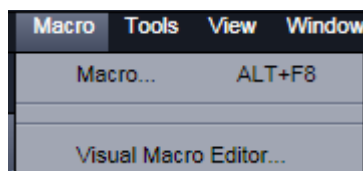

Fig. 5-2 Macro menu
- This displays the **Macro** menu (see Fig. 5-2).